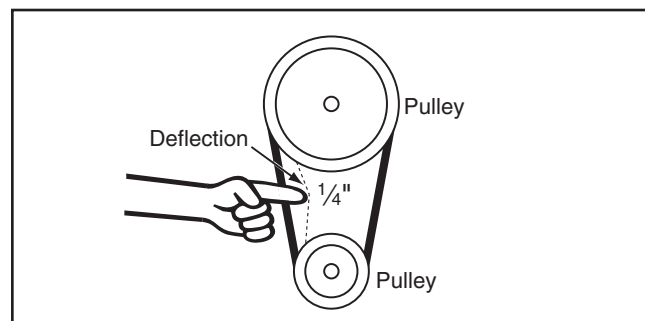

Figure 64. Checking V-belt tension.
5. Lower the motor and adjust the V-belt tension as needed so there is approximately $\frac{1}{4}$ " deflection when the V-belt is pushed with moderate pressure, as shown in **Figure 64**.